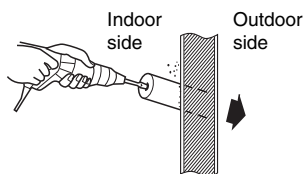

Fig. 3-142
- (8) If the tubing and wiring are to go towards the rear of the unit, make holes in the wall. (Fig. 3-142)